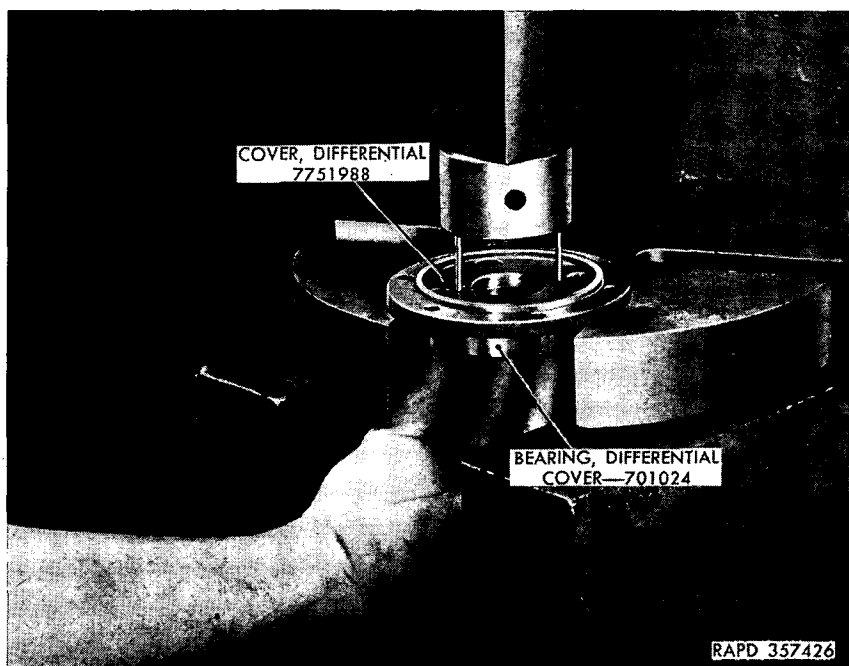

*Figure 66. Removing retaining ring from hand crank shaft assembly.*
- (1) With a thin chisel, drive back metal staked over in screw slots. Mark cover, carrier, and each screw with center-punch so each screw is returned to same hole in differential cover and carrier. Remove six screws, and lift off cover and hand crank shaft assembly. Note amount of shims, if any, between cover and carrier.
- (2) Remove retaining ring from differential hand crank shaft with snap ring pliers (41-P-1992-27) (fig. 66). Lift differential gear off of hand crank shaft. If gear is tight on shaft, lift differential cover off shaft bearing and press gear off shaft the short way. Tap out Woodruff key. Place cover on press and force shaft out of bearing (fig. 67), or lift differential cover off shaft bearing and remove bearing from shaft with puller. Press bearing off differential cover using two 1/8-inch pins (fig. 68).
- (5) Pull shaft assembly out of differential carrier. Remove retaining ring from shaft with snap ring pliers (41-P-1992-27) (fig. 66). Pull gear off shaft and tap Woodruff key out of shaft. Press shaft out of differential bearing (fig. 71). Press differential carrier out of carrier gear and bearing (fig. 72) and tap Woodruff keys out of carrier. Press bearing off motor driven gear with two  $\frac{1}{8}$ -inch diameter pins and arbor press (fig. 73).